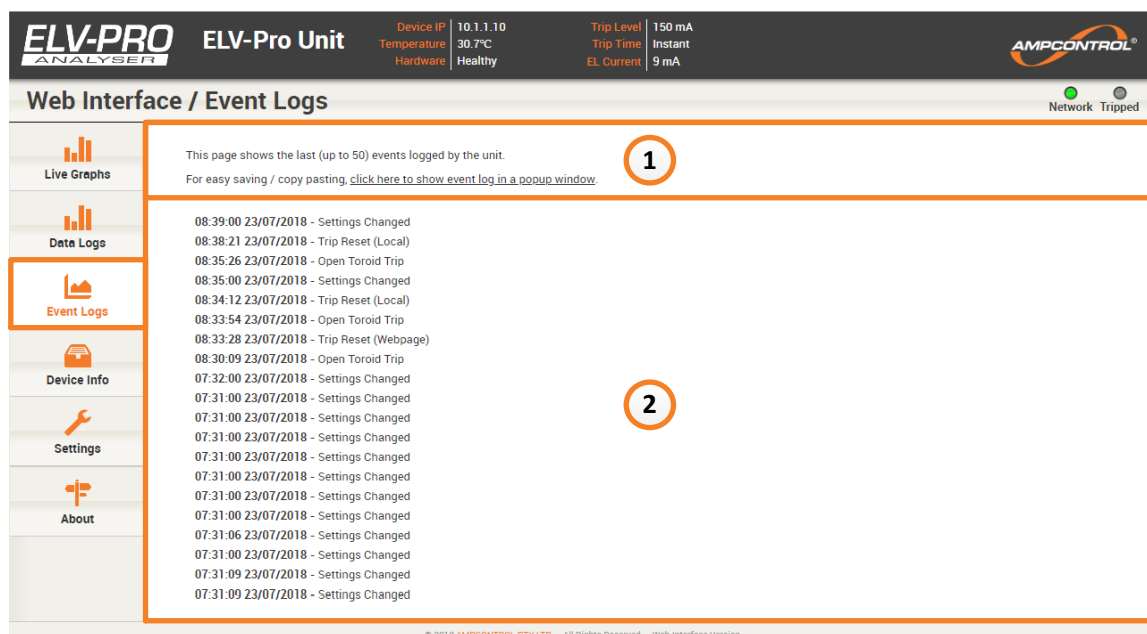

Figure 6.10: ELV-PRO Web Interface - Event Logs
This tab shows the 50 most recent user changes made at the unit, see Figure 6.10. To export this list, use the link above the log (item 1) to show the log entries in a separate popup window for printing or copy-pasting. The Event log descriptions can be found in Table 8 below.